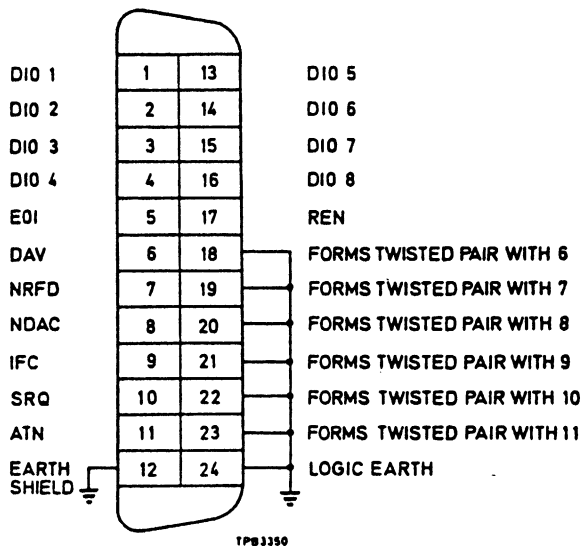

Fig. 1 GPIB connector contact assignments
1. The contact assignment of the GPIB lead assembly and the two device connectors is as shown in Fig. 1 below.